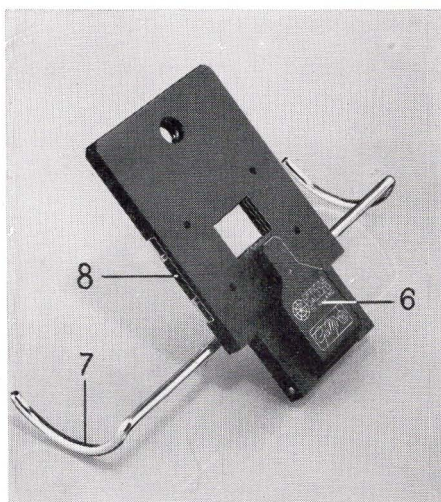

fig. 2
The film holding support visible in fig. 2 is attached to the base (1) by means of thumbscrew (2).